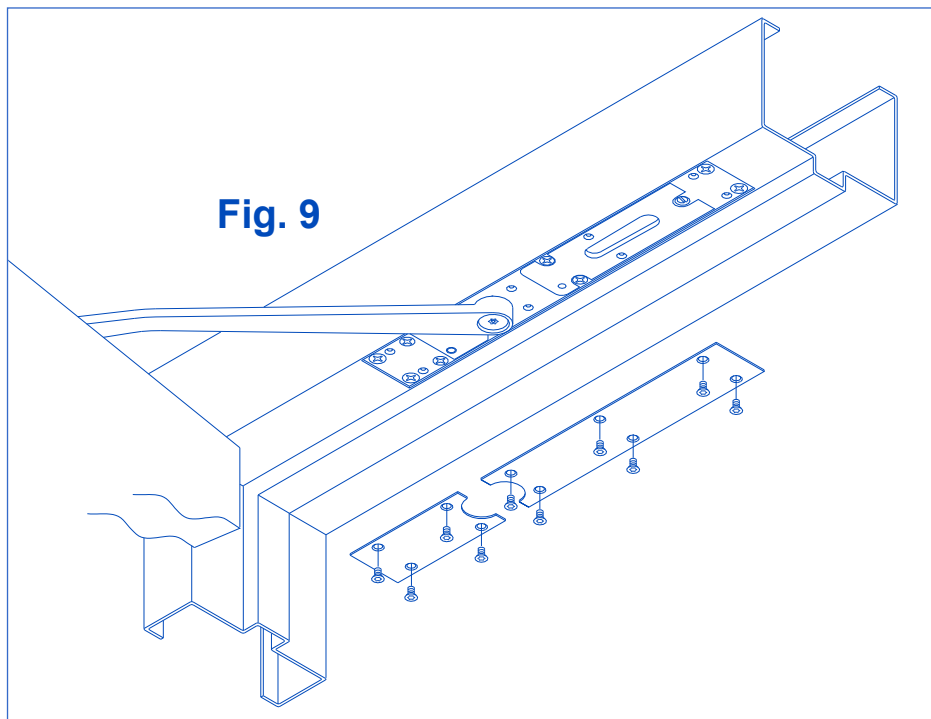

Fig. 9
- 1k Once proper operation has been verified, secure finish plates with No. 10-24 x 3/8" Torx security screws, as shown in Fig. 9 below.